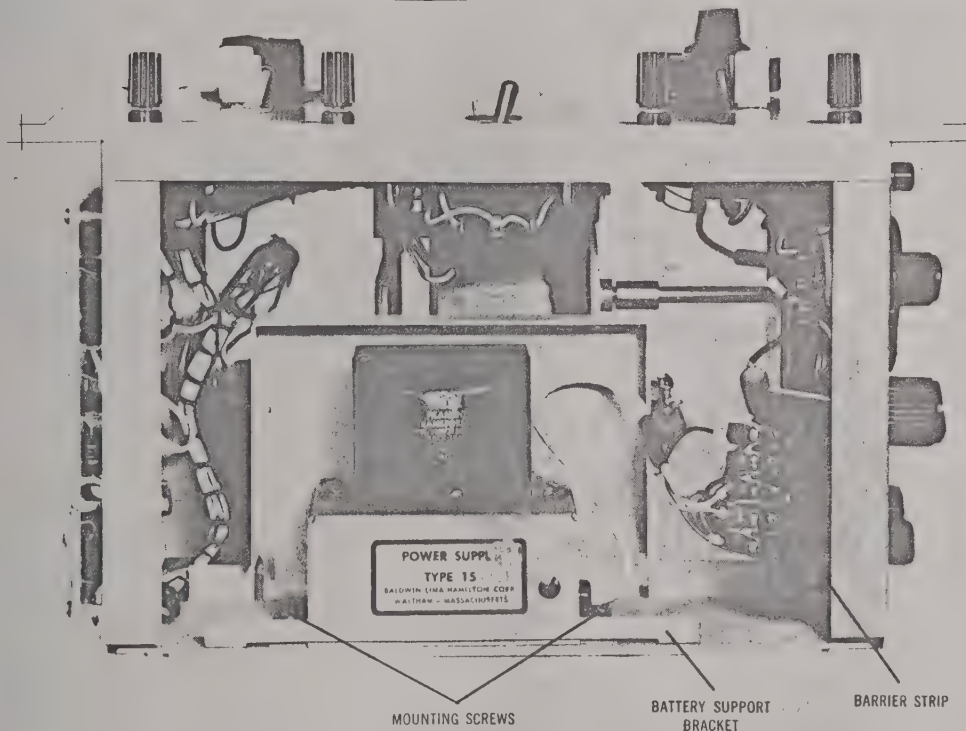

Figure 6b. Location and Mounting AC Power Pack
6.3 INSTALLING AC POWER PACK. Remove the Indicator from its case by removing the two screws on the bottom side. Lift the unit out of its case and install the AC power pack as follows (see figure 6b):